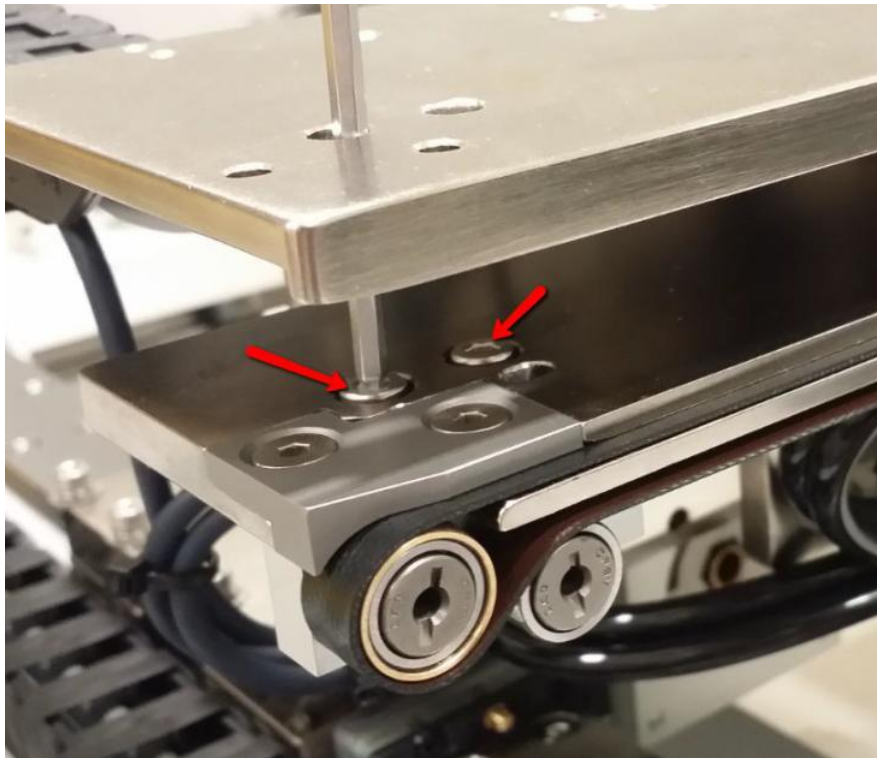

Figure 45 End Pulley Assembly
- c) Slightly loosen End Pulley assembly as below Figure 45